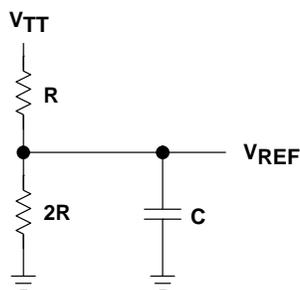

Figure 5. GTLP V_{REF} Resistor Network
- Differential input – FB+ devices have a fixed differential input set at 1.55 V, whereas GTLP devices have a variable differential input that is set via the external V_{REF} control pin. Normally, V_{REF} is two-thirds of V_{TT} so that, when V_{TT} is 1.5 V, V_{REF} is 1.0 V. As shown in Figure 5, the GTLP reference level is set by this simple R/2R resistor network, with R typically being a one-fourth-watt resistor in the range of $1\text{ k}\Omega \pm 1\%$. The advantage of this external V_{REF} and R/2R network is that it maintains the upper and lower noise margin if V_{TT} fluctuates. The maximum input V_{REF} current to a GTLP device is $10\text{ }\mu\text{A}$. A $0.1\text{-}\mu\text{F}$ to $0.01\text{-}\mu\text{F}$ bypass capacitor should be located as close to the V_{REF} pin as possible to stabilize the voltage.